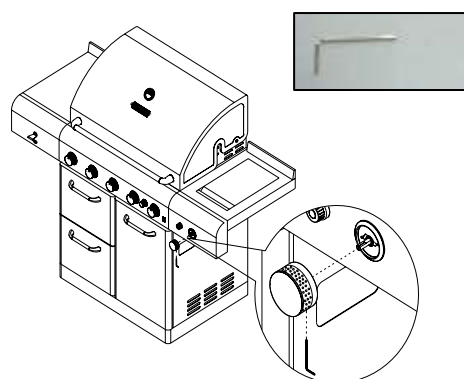

Figure 11
3. Plug side burner igniter wire into igniter module (Fig.11).